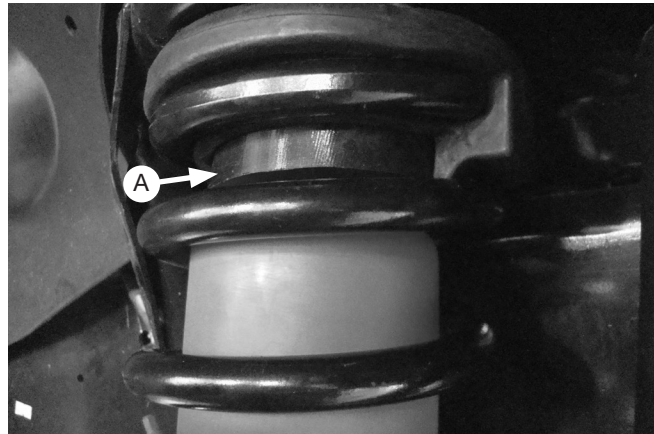
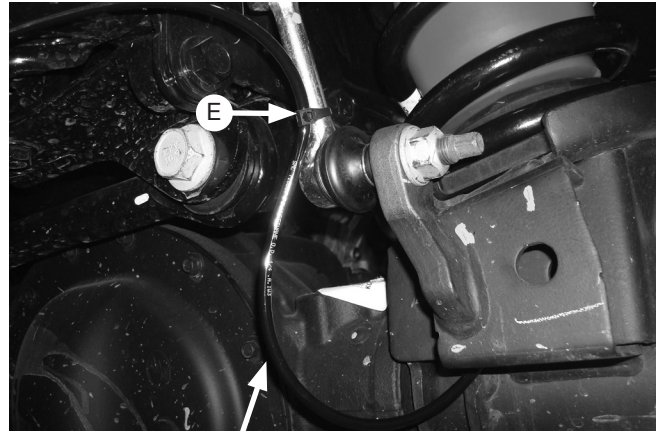

*Fig. 9*
*Fig. 10*
- Before raising the axle back up completely, ensure that the upper and lower protectors (A & B) are in position (Fig. 9 & Fig. 10).